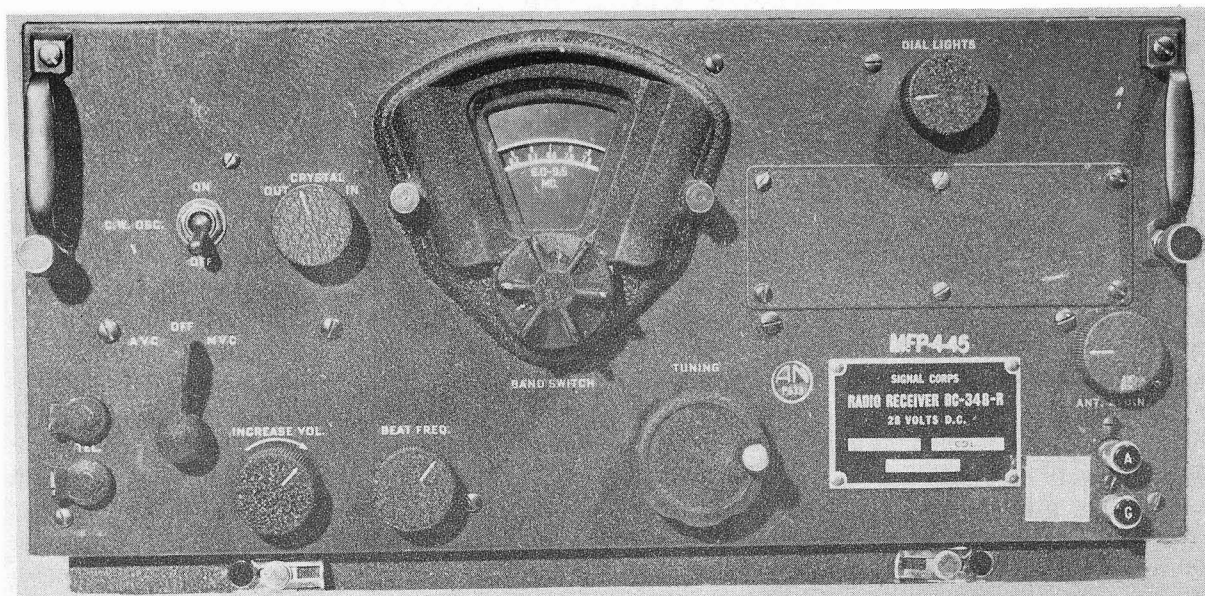

FIGURE 1. Radio Receiver BC-348, Front Panel.
Radio Receiver BC-348. This receiver is a locally controlled, 8-tube, 6-band superheterodyne receiver. The receiver is capable of voice, tone (mcw), and cw reception with manual or automatic volume control. The dynamotor is mounted within the receiver cabinet. Figure 1 shows a front view of the receiver in its cabinet with all the controls on the front panel. When the set is equipped with headsets, tubes, dial lights, and fuses and when the antenna, ground, and 28-volt source connections are properly made, the
Panel Items and Controls. From figure 1 or figure 3, the following panel items may be seen: (1) antenna and ground binding posts, (2) antenna alinement control ANT ALIGN, dial lights rheostat control DIAL LIGHTS, tuning control TUNING, band switch control BAND SWITCH, dial window housing, which covers the dial lights, beat-frequency control BEAT FREQ, crystal filter control OUT-CRYSTAL-IN, volume control INCREASE VOL, CW OSC control, two telephone jacks, TEL, and the AVC-OFF-MVC switch.